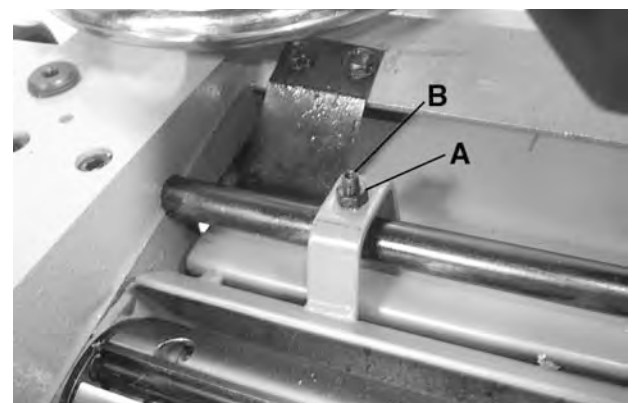

FIGURE 23
5. If the height of the chipbreaker must be adjusted, remove the top cover and dust chute. Loosen hex. nut (A) Fig.23 and turn set screw (B) until that end of the chipbreaker is touching the top of the gauge block. Then retighten hex. nut (A).